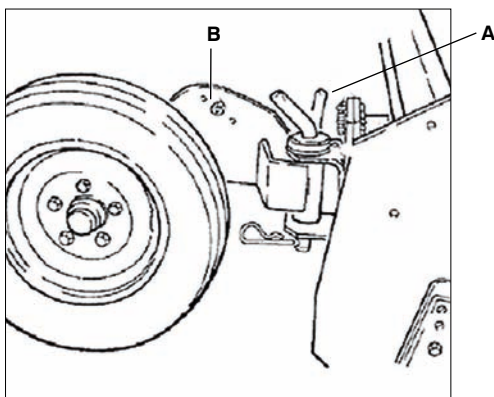

Fig. 3 Rear wheel adjustment
1. Slacken the bolt A (Fig.3) to adjust the distance between the wheels.